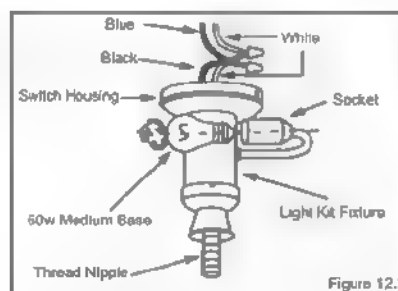

Figure 12.2
2. Locate two wires in the switch housing (white and blue labeled "for light"). Connect them to the light kit wire connectors (Fig. 12-2).
5. Slide the bowl glass over the threaded nipple, followed by the cap, and then finial. Twist finial clockwise until snug (see figure 12-2).